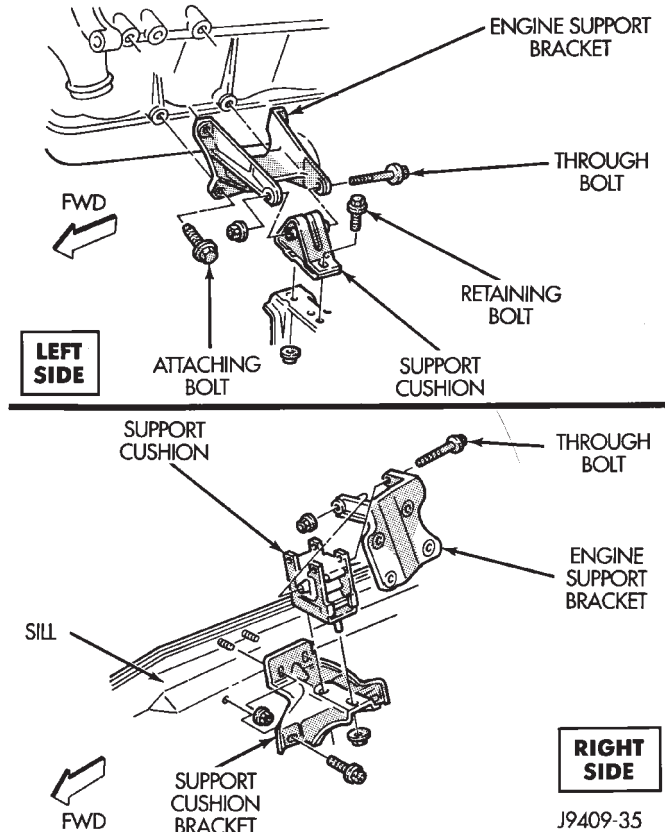
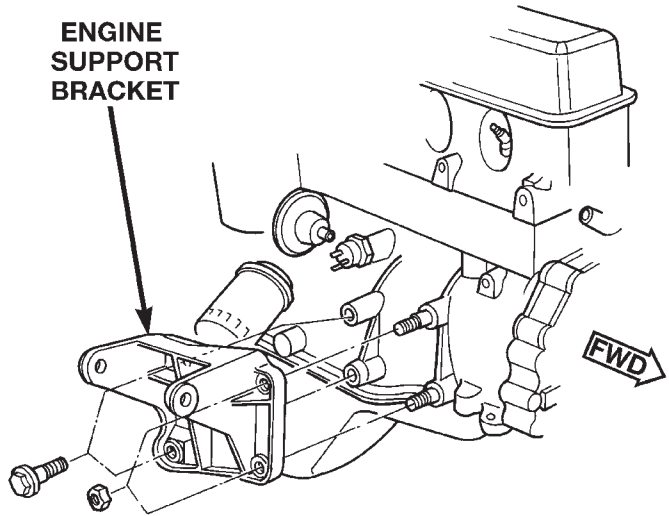
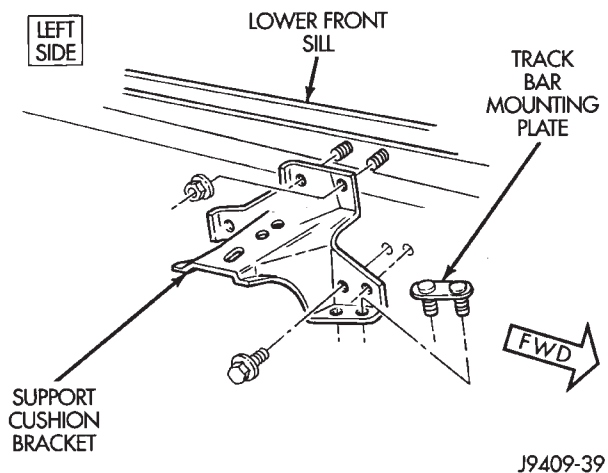

Fig. 24 Front Mounts
Fig. 25 Engine Support Bracket—Right Side
Fig. 26 Support Cushion Bracket—Left Side
- (1) Disconnect negative cable from battery.
- (2) Raise the vehicle.
- (3) Support the engine.
- (4) Remove through bolt nut (Fig. 24). DO NOT remove the through bolt.
- (5) Remove the retaining bolts and nuts from the support cushions (Fig. 24).
- (6) Remove the through bolt.
- (7) Remove the support cushions.
(1) If the engine support bracket was removed, position the LEFT bracket (Fig. 24) and the RIGHT bracket (Fig. 25) onto the cylinder block. Install the bolts and stud nuts.
(a) RIGHT SIDE (Fig. 25) —Tighten the bolts to 61 N·m (45 ft. lbs.) torque. Tighten the stud nuts to 46 N·m (34 ft. lbs.) torque.
(b) LEFT SIDE (Fig. 24) —Tighten the bolts to 61 N·m (45 ft. lbs.) torque.
(2) If the support cushion brackets were removed, position the brackets onto the lower front sill (Fig. 24) (Fig. 26). Install the bolts and stud nuts. Tighten the bolts to 54 N·m (40 ft. lbs.) torque and the stud nuts to 41 N·m (30 ft. lbs.) torque.
(3) Place the support cushions onto the support cushion brackets (Fig. 24). Tighten the right support cushion nuts to 65 N·m (48 ft. lbs.) torque. Tighten the left support cushion bolt and nut to 41 N·m (30 ft. lbs.) torque.
(4) Install the through bolt and the retaining nut (Fig. 24). Tighten the through bolt nut to 65 N·m (48 ft. lbs.) torque.
(5) Remove the engine support.
(6) Lower the vehicle.
(7) Connect negative cable to battery.